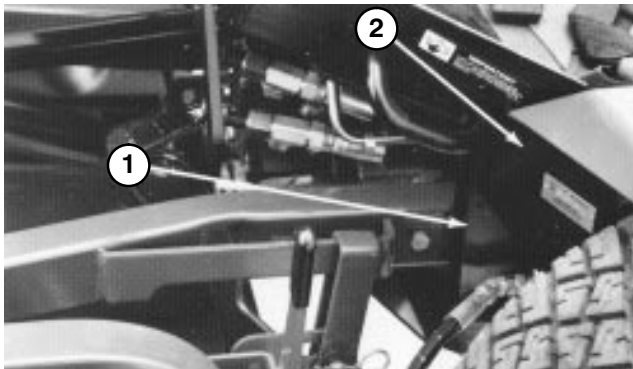

Figure 64
2. Disconnect (3) hydraulic lines (quick couplers) and wire harness at rear of deck.
4. Remove (2) capscrews and locknuts securing cutting unit carrier frames to traction unit lift arms (Fig. 64).